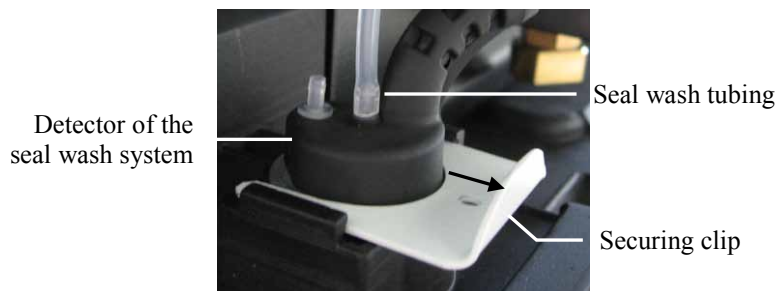

Fig. 33: Detector of the seal wash system
1. Remove the seal wash tubing from the detector (→ Fig. 33).
Connect the seal wash tubing to the *inner* port (→ Fig. 33). The *outer* port has no function.